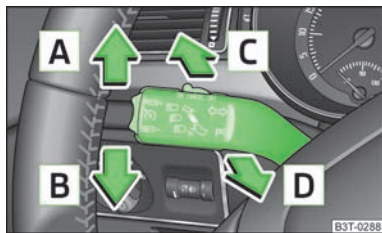

Fig. 38
- Push the lever upwards **A** » Fig. 38 or downwards **B**.